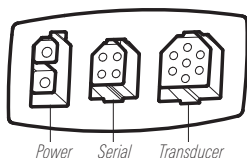

Figure 8
1. Matching the cable plugs to the shape and orientation of the sockets, insert the transducer and power cables into the correct sockets on the control head (Figure 8).